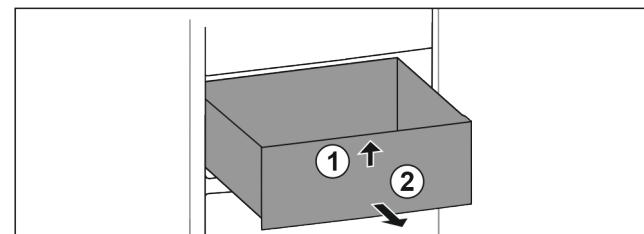

Fig. 65
- ▶ Lift up drawer at the front. Fig. 65 (1)
- ▶ Remove drawer to the front. Fig. 65 (2)